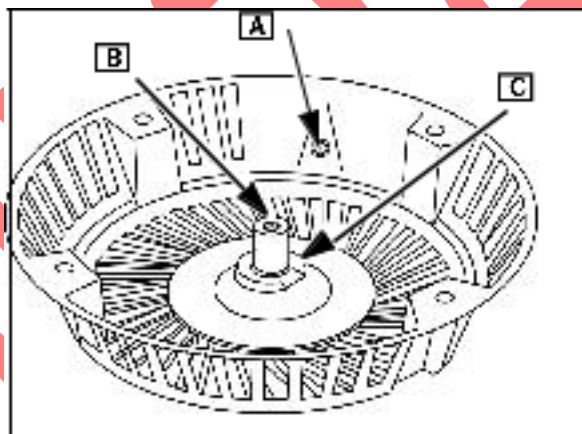

Fig. 15
Inspect starter housing eyelet (A), center pivot post (B) and inner spring retainer (C) Fig. 15). Replace housing assembly if worn or damaged.